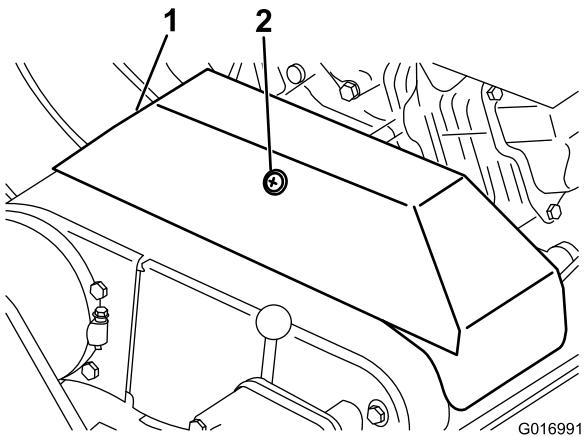

Figure 36
3. Loosen the retainer securing the V-belt cover and pivot the cover open (Figure 36).